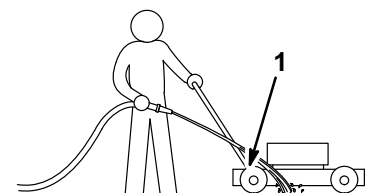

Figure 34
3. Hold the running garden hose at handle level and direct the water to flow on the ground just in front of the right rear tire (Fig. 34).